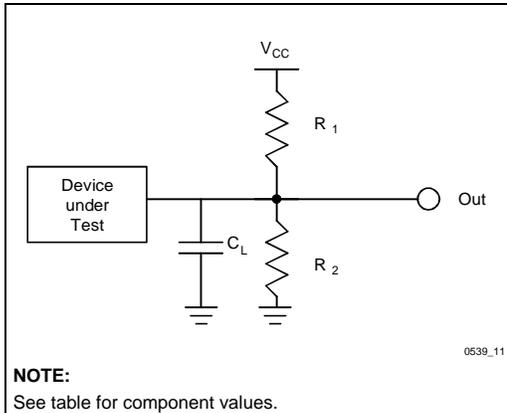

Figure 19. Test Configuration
5. See *Test Configuration* (Figure 19), 2.7 V–3.6 V and  $3.3 \pm 0.3$  V Standard Test component values.
6. See *Test Configuration* (Figure 19), 5 V Standard Test component values.
- See *Test Configuration* (Figure 19), 2.7 V–3.6 V and 3.3 ± 0.3 V Standard Test component values.
- See *Test Configuration* (Figure 19), 5 V Standard Test component values.